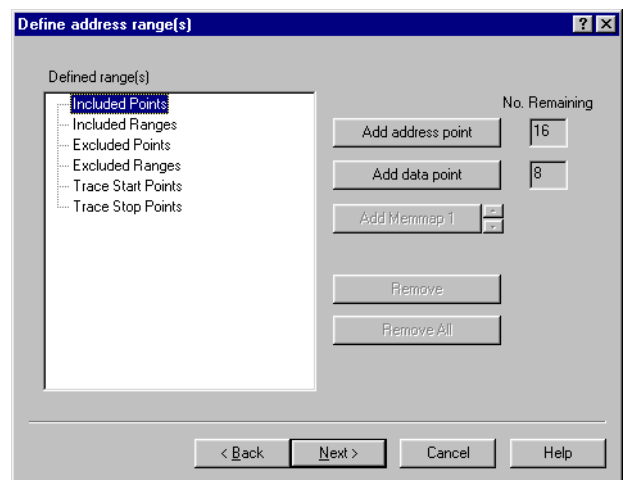

Figure 5-19 Define address range(s) interface example
The Define address range(s) dialog box shown in Figure 5-19 enables you to combine several conditions in one rule. For example, you might want to enable tracing for several functions. A single rule using defined address ranges can contain each address range, or its inverse, that you want to include for evaluation.
5. Click **Next>**. The Define address range(s) dialog box is displayed, as shown in Figure 5-19 on page 5-37. The number and type of resources available is dependent on your ETM configuration.